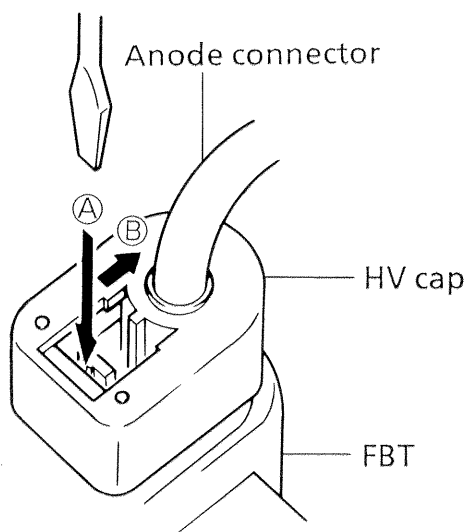

Fig. 6
- (1) Insert a small flat-bladed screwdriver (adjustment screwdriver : 5 - 7 mm wide and 0.2 - 0.3 mm thick) into section ① in Fig.6 and then push it in the direction of arrow ②. The lock will release with a click. (The state in Fig.8 - (1) will change to that in Fig.8 - (2).)